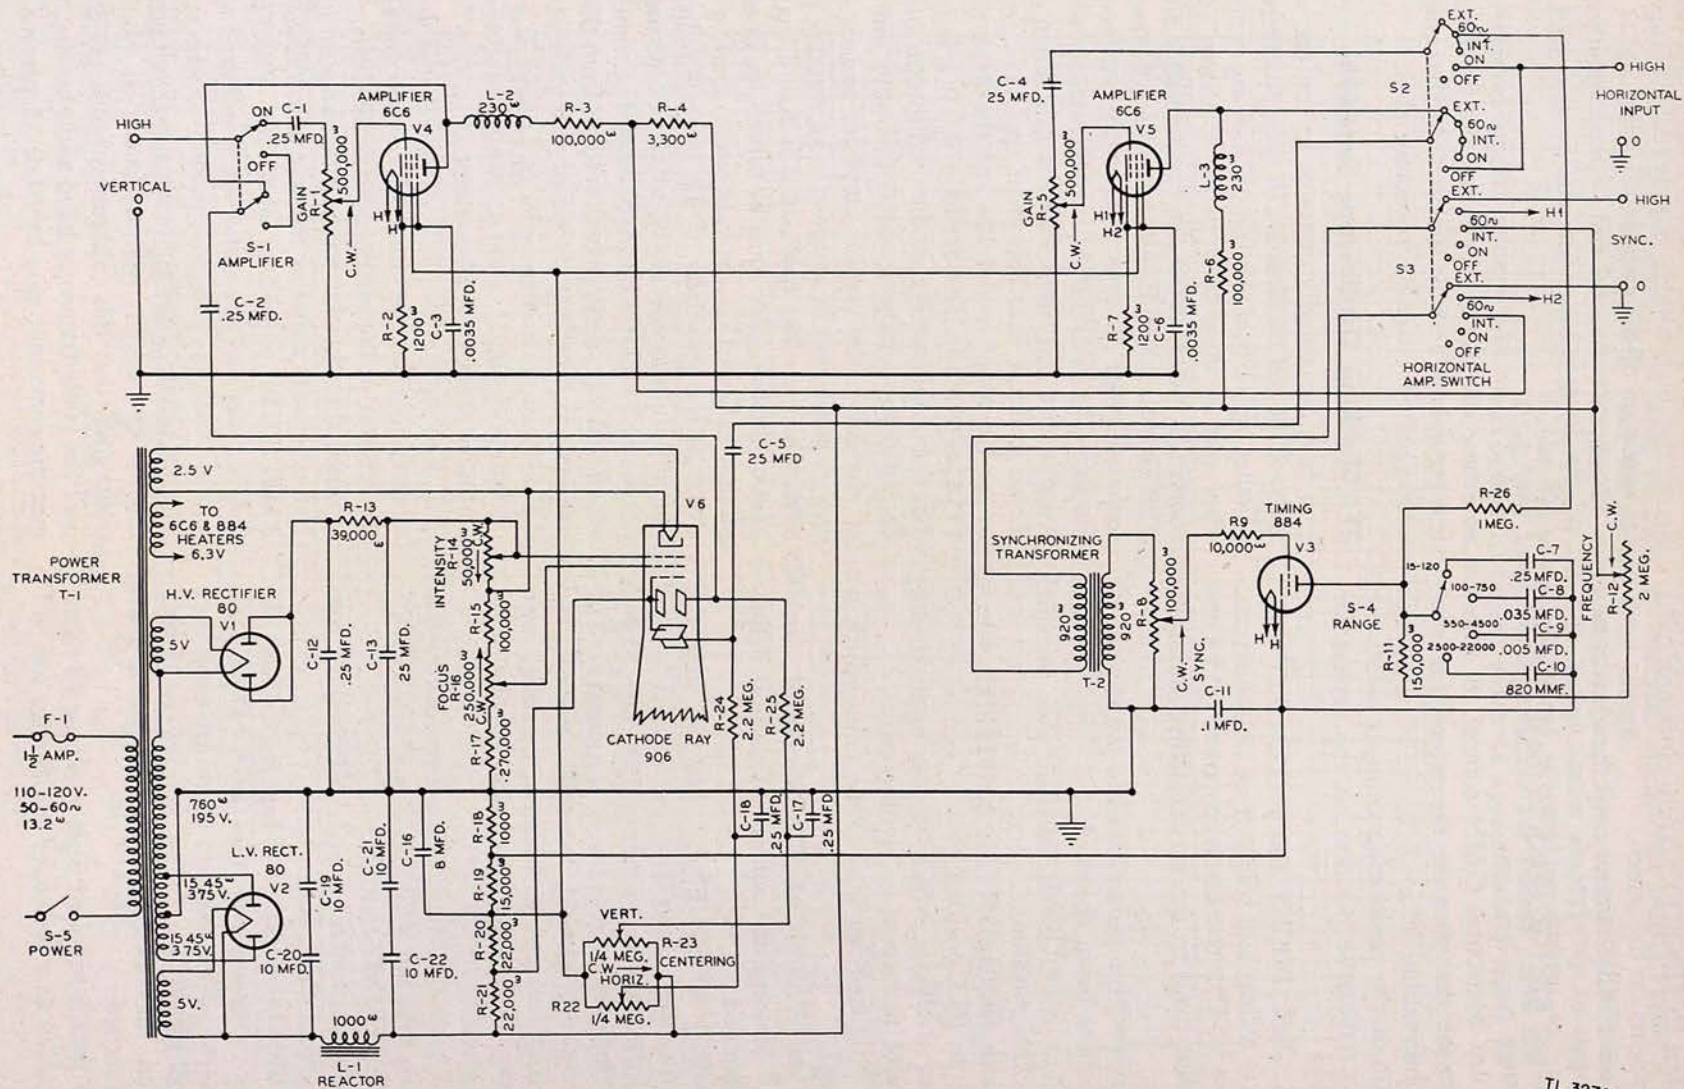

Figure 20. RCA oscilloscope, No. 155A, schematic.
(2) Connect the ground lead to the chassis of the component being observed.
(3) Turn VERTICAL AMPLIFIER selector switch to ON position.
(4) Turn HORIZONTAL AMPLIFIER selector switch to INT position.
(5) Set RANGE switch to the approximate frequency of the signal to be observed.
(6) Apply free test lead to the point which is to be tested.
(7) Turn VERTICAL GAIN control clockwise until the required amount of vertical deflection is obtained.
(8) Adjust FREQUENCY dial to stop the waveform on the screen.
(9) If the waveform tends to drift, turn SYNC control clockwise to hold it stationary. The SYNC control should not be turned any farther than necessary, because excessive synchronization will cause distortion of the wave being observed.
(10) Locate the image at a convenient portion of the screen by the VERTICAL and HORIZONTAL CENTERING controls.
(11) Readjust FOCUS and INTENSITY controls to give a sharp trace.
e. SCHEMATIC ANALYSIS. Figure 20 shows the schematic diagram of the RCA 155A test oscilloscope. This diagram is to be used only when the officer in charge permits emergency repairs on the test unit. The important parts and circuits are:
(1) Power is supplied from two type 80 tubes: V2, operating as a full-wave rectifier for low vol-